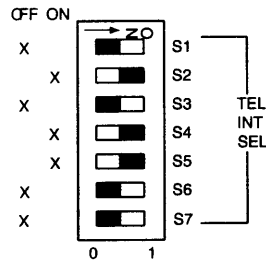

Figure 5-3: Ground Start Telephone Selector Switch
2. Move the dip switches on the module to the position shown in Figure 5-3 below. Use the tip of a pen or other pointed instrument to move the switches.